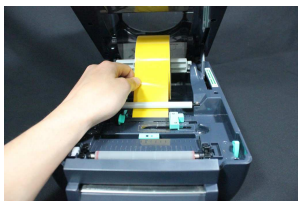

Figure 4
Step 4: Place vinyl under the white bar and between the adjustable green guides, as shown in Figure 4. Continue over the rubber platen and through the cutter, until the material is coming out the front of the printer about ¼".